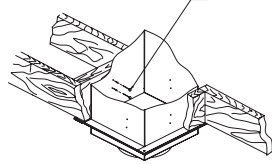

Figure 3
Step 3: From below push the square support into the framed opening making sure the square support extends a minimum of 3 1/2" below the finished ceiling. Screw finish trim (included) to the ceiling. Attach the support to the framed box using (12) - 3" spiral nails or #8 x 1 1/2" wood screws (see Figure 3).